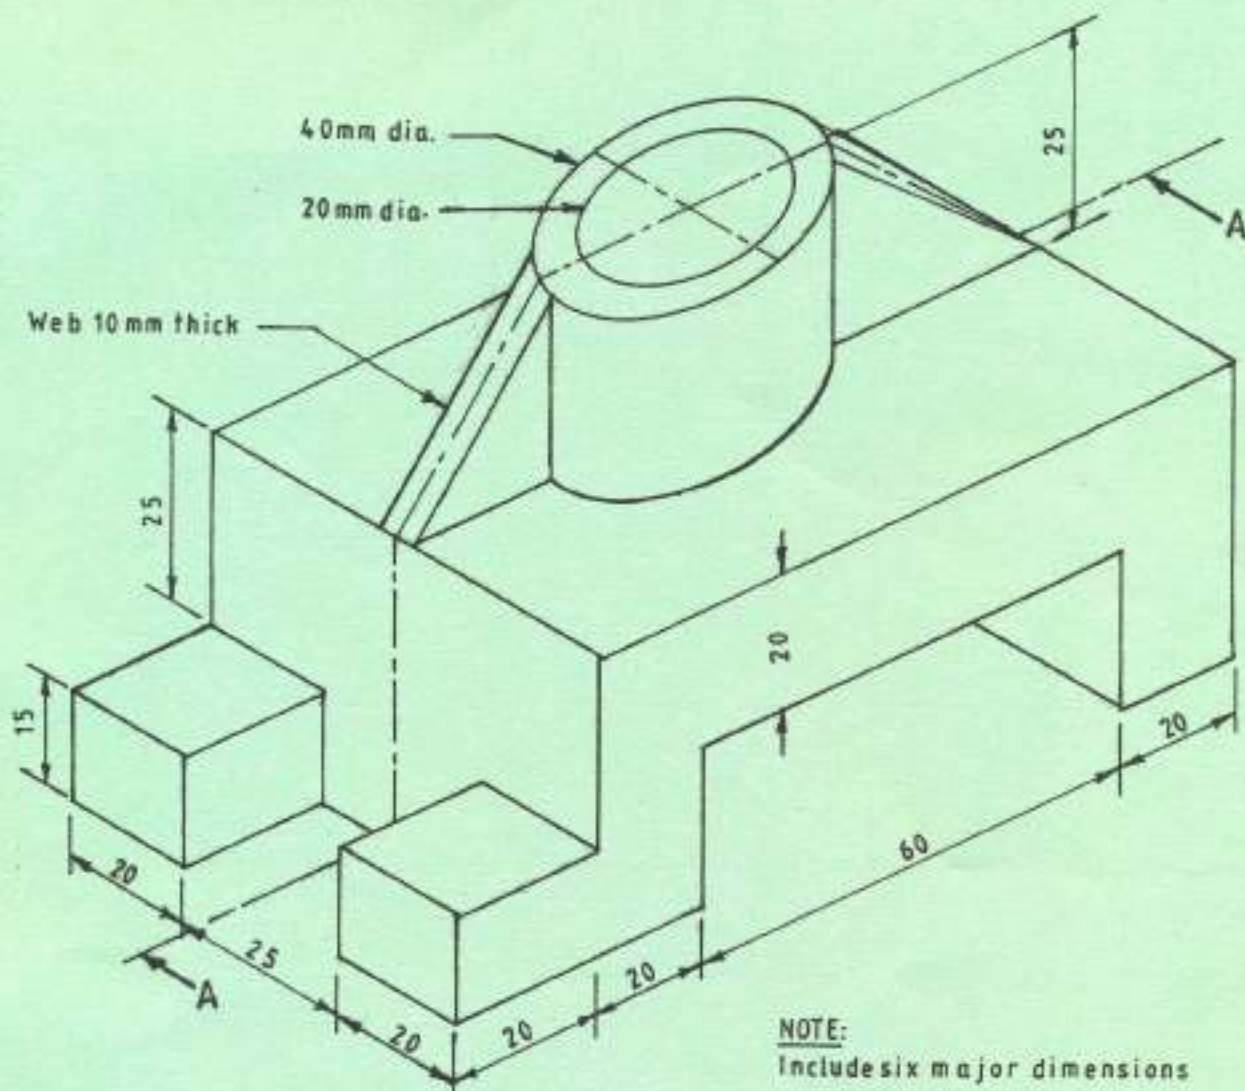

Fig. 3
4. Figure 3 shows an isometric drawing of a machine block. Draw the following views full size in first angle projection. Include six major dimensions.